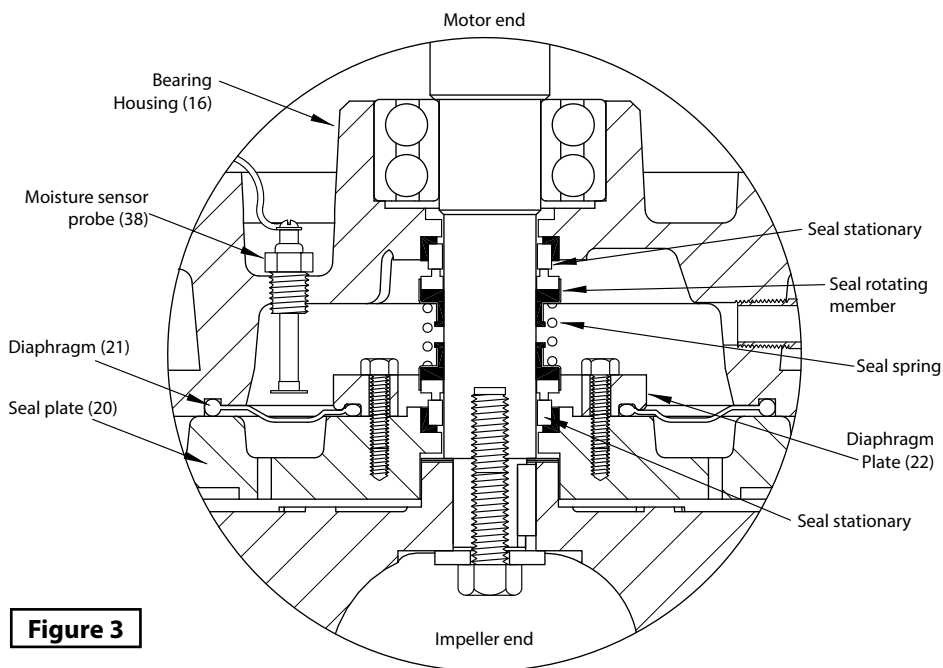

Figure 3
Seal/Diaphragm - (See Figure 3) Clean and oil seal cavities in bearing housing (16) and seal plate (20). Lightly oil (**Do not use grease**) outer surface of inboard and outboard stationary members of seal (19). Press inboard stationary member firmly into bearing housing (16) and outboard stationary into diaphragm plate (20), using a seal pusher tool. Nothing but the seal pusher tool is to come in contact with seal face.